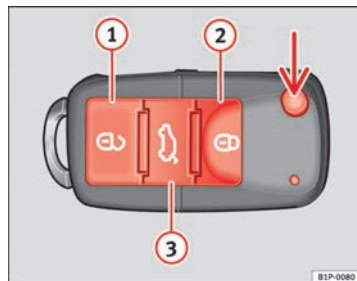

Fig. 64 Assignment of buttons on the remote control key
Using the button $\Rightarrow$ Fig. 64 (arrow) on the control, the key blade is released.
Unlocking the vehicle $\Rightarrow$ Fig. 64 ①.
Locking the vehicle $\Rightarrow$ Fig. 64 ②.
Unlocking the rear lid. Press button $\Rightarrow$ Fig. 64 ③ until all the turn signals on the vehicle flash briefly. When the unlocking button $\Rightarrow$ Fig. 64 ③ is pressed, you have 2 minutes to open the door. Once this time has passed, it will lock again.
Also, the battery indicator on the key $\Rightarrow$ Fig. 64, will flash.
When the button $\Rightarrow$ Fig. 64 ①, is pressed once, the driver door is unlocked, all others remain locked.
Press the button $\Rightarrow$ Fig. 64 ① twice to unlock all doors.
- Press the ⇒ Fig. 64 button on the remote control.